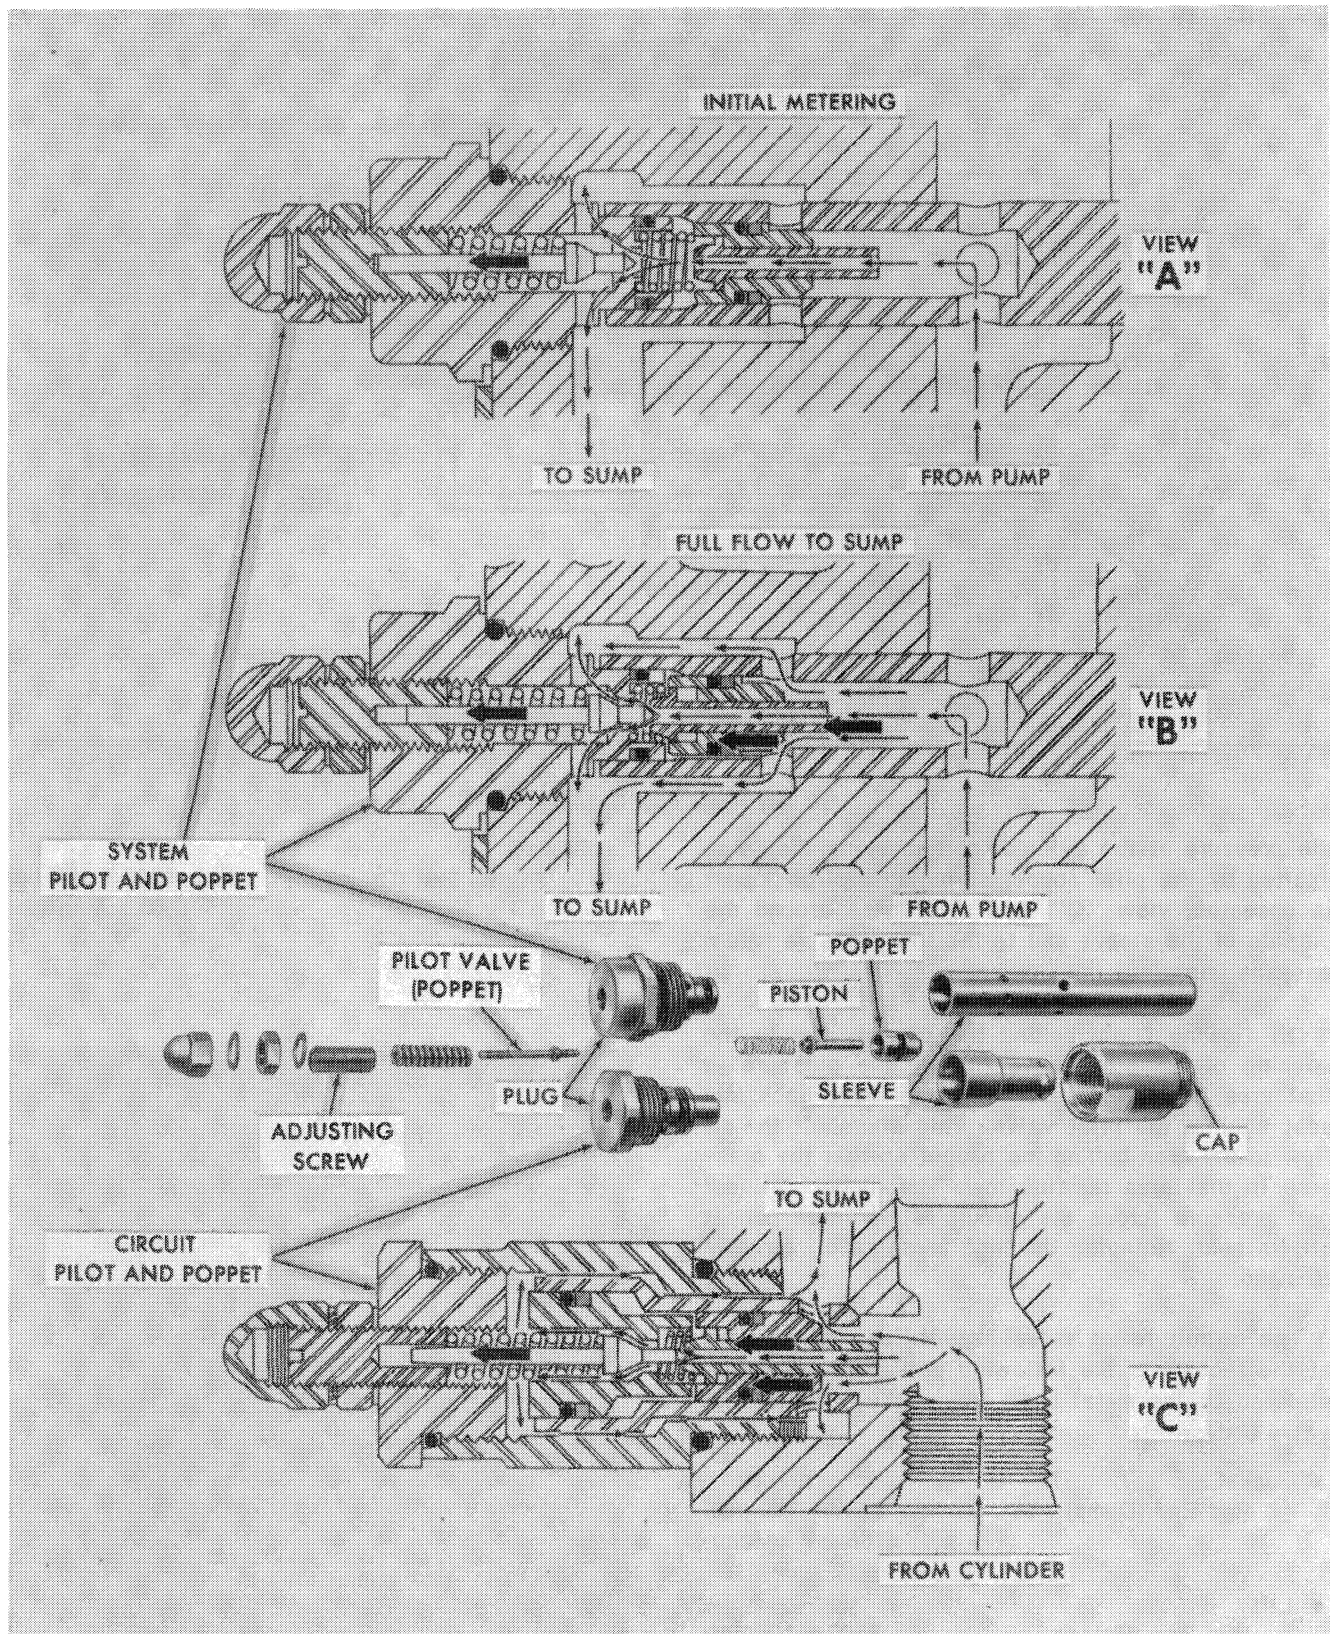

Figure 7
**System Relief Valves:** The system relief valves, Figure 7, in the main control valve serve to protect the backhoe hydraulic components from damage by preventing excessive internal pressures in the system when the valve spools are activated. When a spool is actuated and the cylinder reaches the end of its stroke, or is physically prevented from moving, the system relief valve opens and directs pump oil to the low pressure return passage of the control valve. The system relief valve is located between the high pressure inlet port and the low pressure return passage of the control valve. See Figure 4.
**Circuit Relief Valves:** Circuit relief valves, view "C", Figure 7, are used in the lift, crowd, and bracket circuits. These circuits are subjected to externally-caused high pressures during normal backhoe operation. Relief valves are used at both ends of the lift circuit, the piston end of the crowd circuit, and the rod end of the bucket circuit. The circuit relief valves limit the pressure which is allowed to build in these circuits during backhoe operation. The valves are positioned between the cylinder port and the return passage in the control valve. High pressure cylinder oil enters the relief valve through the end of the hollow piston. This oil acts against the pilot valve and the inner side of the poppet. When